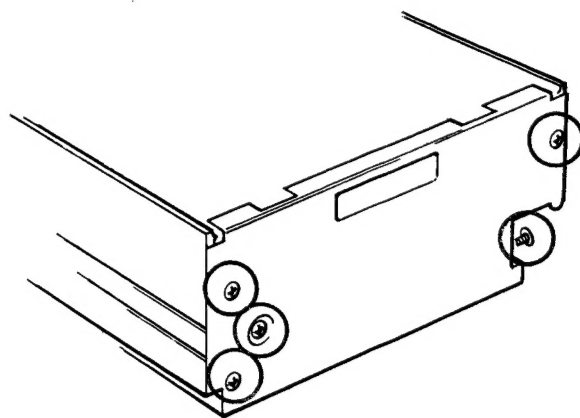

Fig. 3.6 Removing the right metal side panel
3. Remove the right wooden side panel. Remove the 5 screws shown in Figure 3.6 and pull off the right metal side panel. When the metal plate is replaced, it must be properly seated before the screws are tightened.